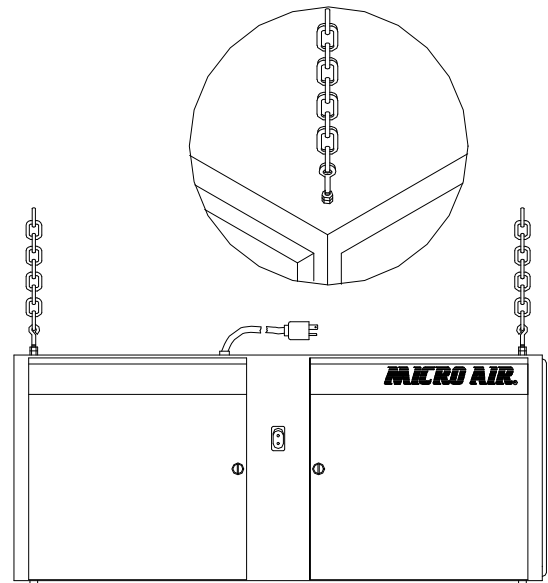

FIG. 2
1. Remove the four (4) 1/4-20 threaded bolts from the corners located on the top or bottom of the unit. (Note: the MT1251/MT1252 is designed to work equally well, whether suspended from the top or bottom.) If the unit is installed upside down, the doors can be interchanged, so that the logo reads correctly.
2. Using the mounting hardware kit provided, screw two (2) hex nuts onto each eyebolt, then put eyebolt assembly into each hole from step 1. Tighten the nuts together to prevent loosening by vibration. The unit is now ready to be installed in an appropriate location. (See FIG. 2.)